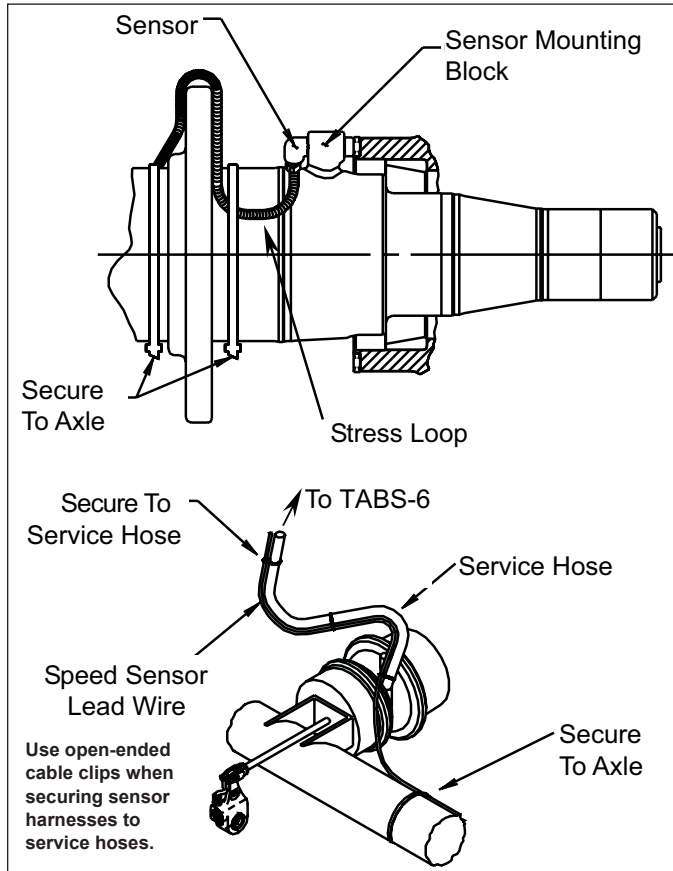

FIGURE 7 - SENSOR LEAD ROUTING AND SECURING
3. Gently push (DO NOT STRIKE) the sensor into the mounting block hole until it bottoms out on the face of the tone ring. Secure the cable lead wire to the knuckle/axle housing three to six (3-6) inches from the sensor. See Figure 7.